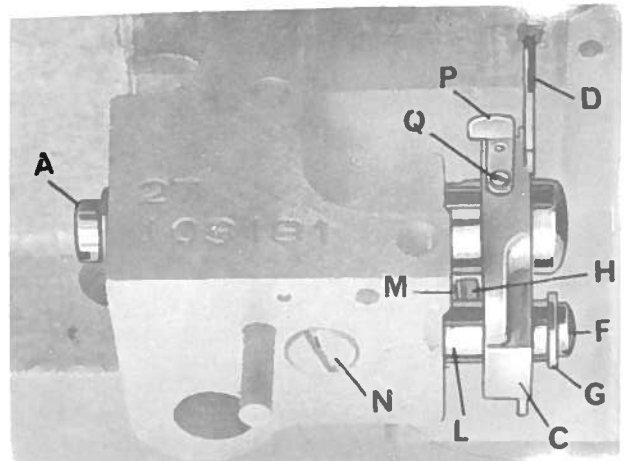

fig.13
8. Mounting the lower knife (fig. 13).